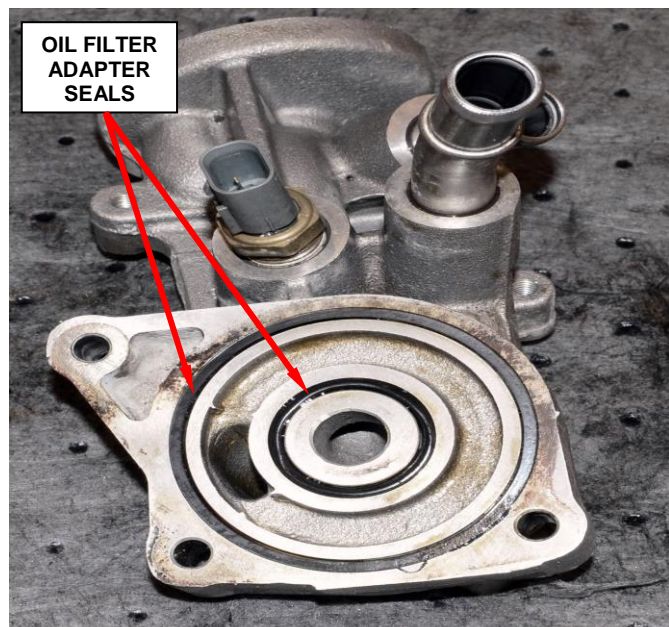

Figure 5 – Oil Filter Adapter Seals
12. Lubricate the two new oil filter adapter seals with motor oil and position to the oil filter adapter (Figure 5).